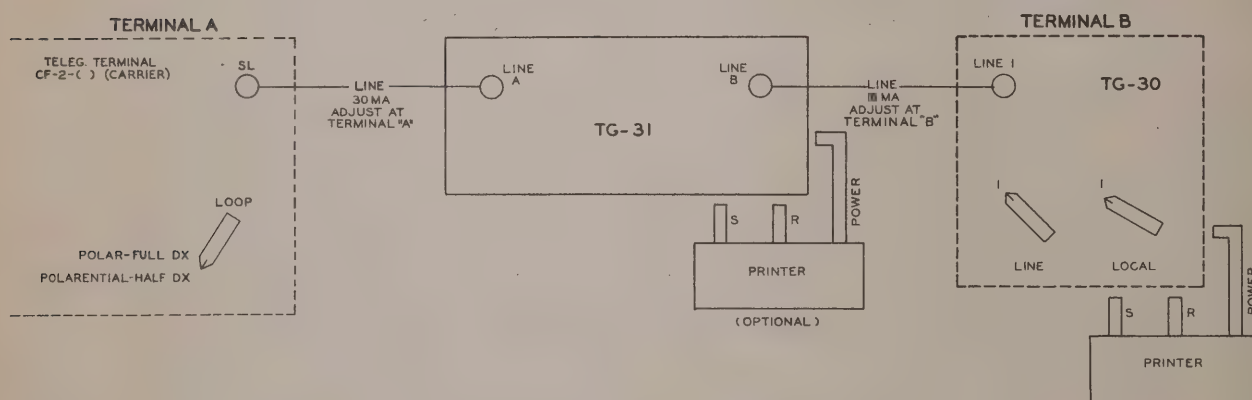

Figure 4 - Operation with a Telegraph Terminal CF-2-() (Carrier) and a terminal using Repeater TG-30
18. OPERATION TO DISTANT TERMINALS, ONE USING TELEGRAPH TERMINAL CF-2-() (CARRIER) AND OTHER USING REPEATER TG-30 (TERMINAL) (FIG. 4).—At Telegraph Terminal CF-2-() (Carrier), turn the LOOP switch to the POLARENTIAL - HALF DX